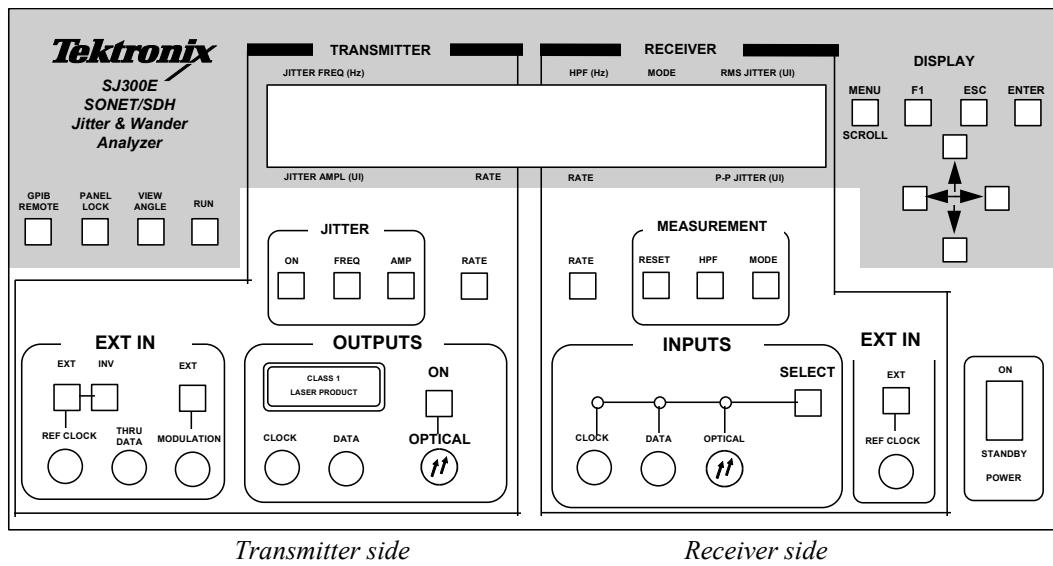

Figure 4-1: SJ300E Front Panel
- ◆ The procedure refers to the **Receiver side** and the **Transmitter side** of the front panel. The **Receiver side** refers to the right section of the front panel. The **Transmitter side** refers to the left section of the front panel. Refer to Figure 4-1 below for a representation of the front panel.